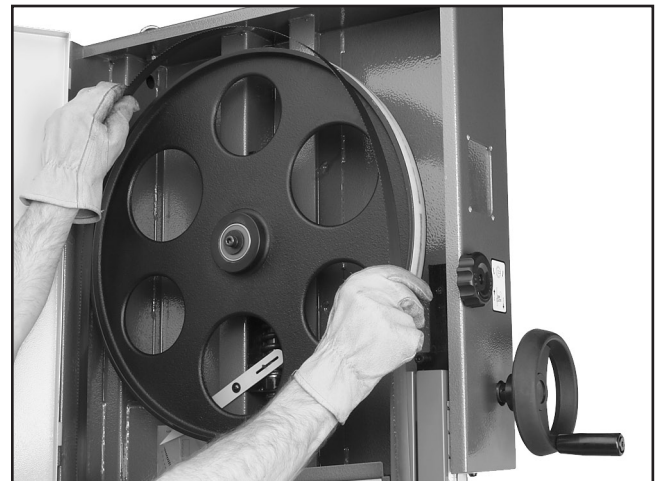

Figure 39. Placing blade on the wheels.
2. Slip the blade through the guides, and mount it on the upper and lower wheels (**Figure 39**).